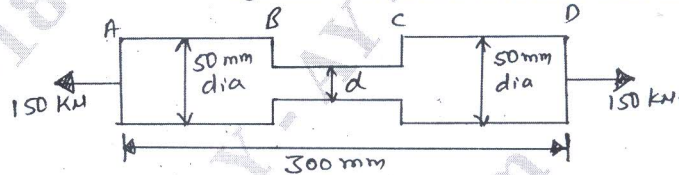

Fig.Q1(c)
- c. A steel bar is subjected to tensile load of 150 kN as shown in Fig.Q1(c). Find the diameter of the middle portion if the stress in that portion is limited to  $140 \text{ N/mm}^2$ . Find also the length of the middle portion, if the total elongation of the bar is  $0.16 \text{ mm}$ . Take  $E = 2 \times 10^5 \text{ N/mm}^2$ .